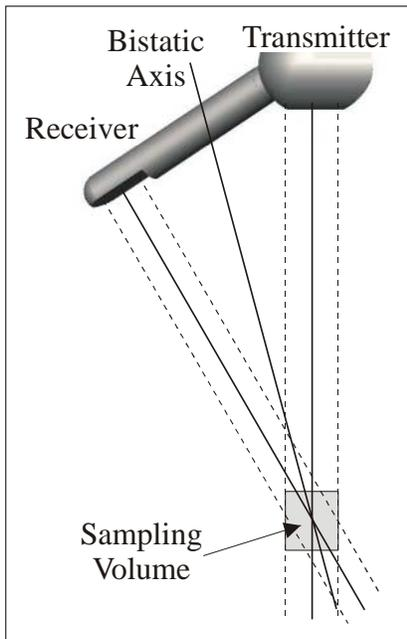

Figure 3 – Bistatic Axis
- The bistatic axis is halfway between the transmit and receive beam axes (Figure 3).